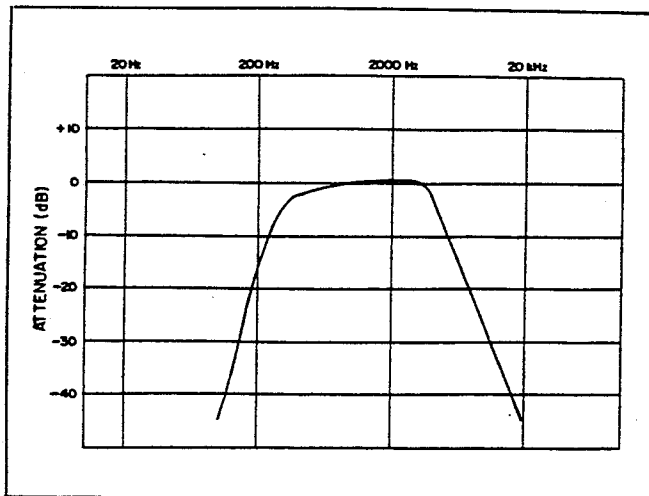

Figure 11-3. Transmitter section frequency response, RFL 67 PLC VOICE Voice Adapter Module
**Frequency Response:** See Figures 11-3 through 11-5.